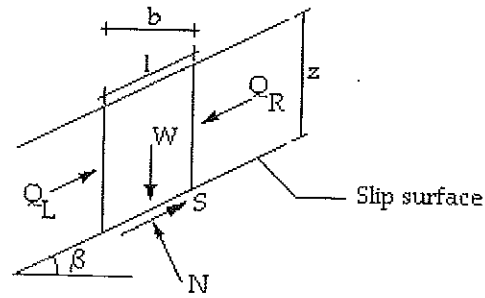

Fig. B6c
- c. Fig. B6c shows a soil element of a dry slope that may slide along a plane parallel to the ground surface. Derive expressions for the shear stress, τ and the shear strength τ_{max} based on the given quantities. Express the factor of safety. (4 points)